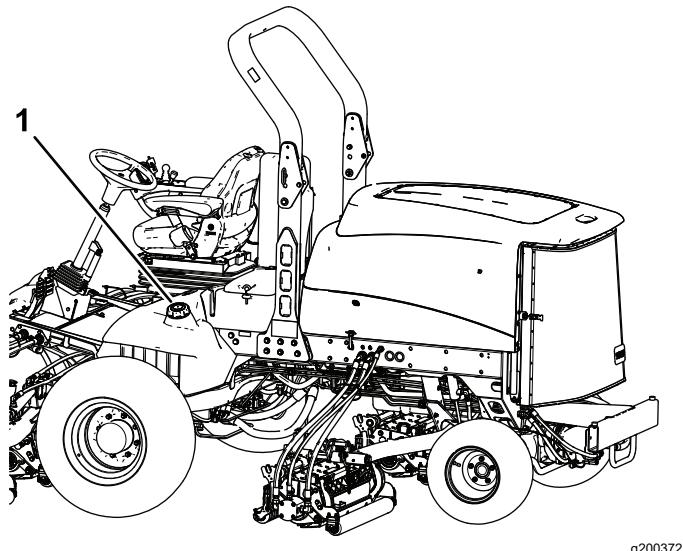

Figure 34
3. Remove the cap from the fuel tank (Figure 34).